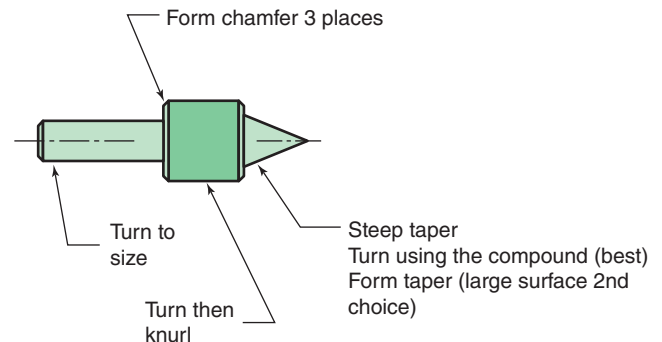

Figure 11-169 The operations for Problem 5.
5. See Fig. 11-169. Note, that depending on how this job is planned, there might also be a parting operation if it's made from bar stock.